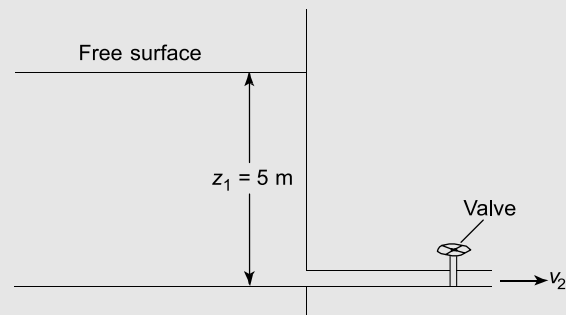

Figure 24.12
Problem 2. A storage tank contains oil whose free surface is 5 m above an outlet pipe, as shown in Figure 24.12. Determine the mass rate of flow at the exit of the outlet pipe, assuming that (a) losses at the pipe entry = $0.4 v^2$, and (b) losses at the valve = $0.25 v^2$.
- If in the storage tank of worked Problem 2 on page 297, Figure 24.12, $z_1 = 8 \text{ m}$, determine the mass rate of flow from the outlet pipe. [7.995 kg/s]
- If in the storage tank of worked Problem 2, page 297, Figure 24.12, $z_1 = 10 \text{ m}$, determine the mass rate of flow from the outlet pipe. [8.939 kg/s]